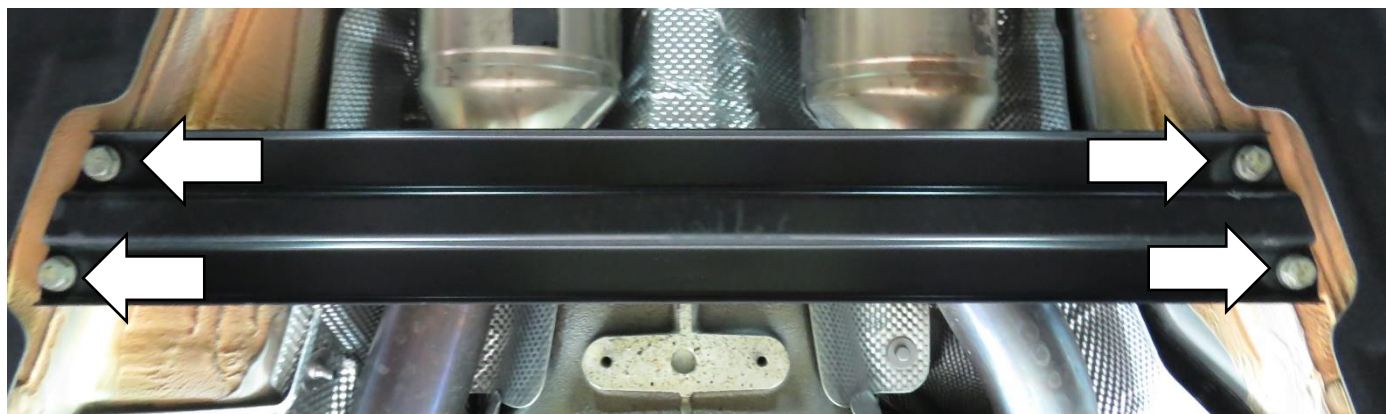

Fig. 9
11. Remove the bracket below the catpipe. (Fig 9)